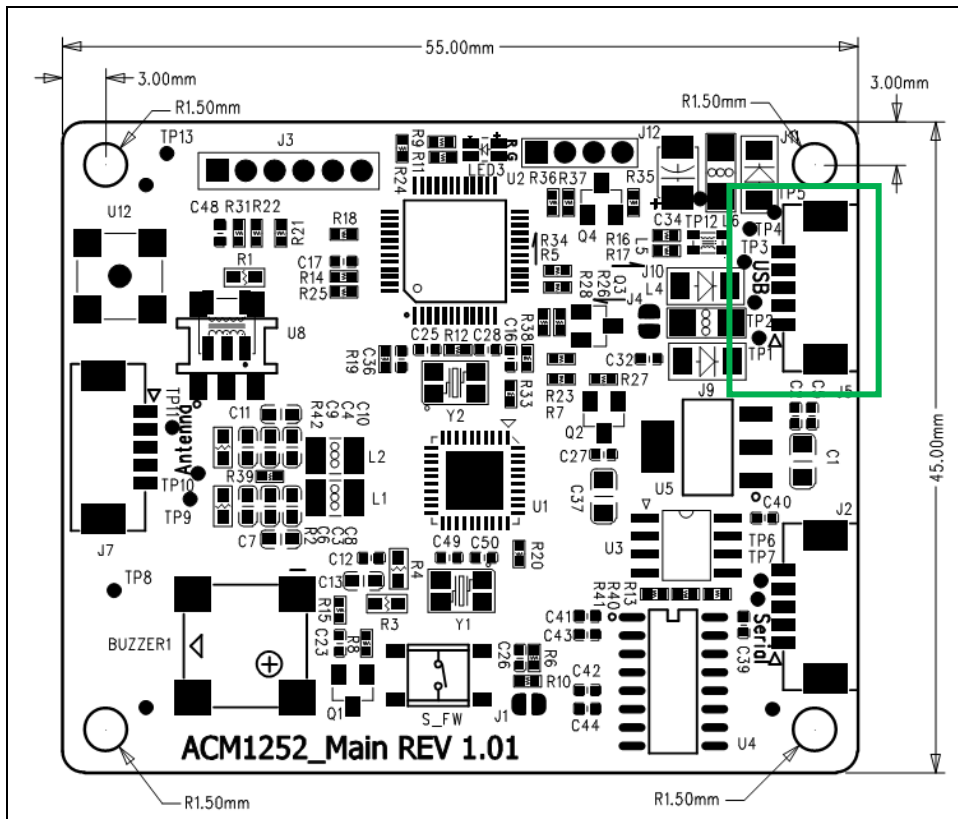

Figure 4: ACM1252U-Y USB Configuration
- Figure 4 : ACM1252U-Y USB Configuration 8**
1. Connect socket (**J5**) via USB cable to another peripheral device (see **Figure 4**).